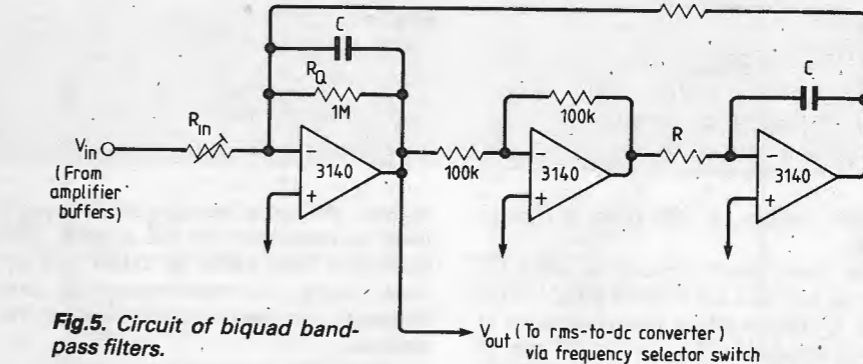

Fig. 5. Circuit of biquad band-pass filters.
**Bandpass filters.** The biquad type of filter allows the various parameters to be easily selected. Referring to Fig. 5, the centre frequency,  $\omega_0$ , is  $\omega_0 = 1/RC$ , the Q (-3dB) is  $R_Q/R$  and the passband gain G is  $R_Q/R_{in}$ . Each of the six filters comprises two integrators and an inverter in a loop, which combination behaves as a parallel tuned circuit with an artificial inductance L given by  $R^2C$ . The calculated Q ( $R_Q/R$ ) gives the -3dB bandwidth as  $f_0/Q$ , and the effective bandwidth for white noise is  $\pi/2$  times this (found by integration of the filter transfer function over all frequencies).10
Each filter input resistor ( $R_{in}$  in Fig. 5) is made variable to aid calibration. If a broadband noise generator of known spectral noise density is available, then this can be used to set up the filters. Otherwise, the best method is to measure the -3dB points and then scale the peak gains accordingly: that is, Gain =  $100/\sqrt{B_{-3dB}}$ . The "CAL IN" socket provides buffered unity gain to the filters, the gain control being inoperative if this is selected.